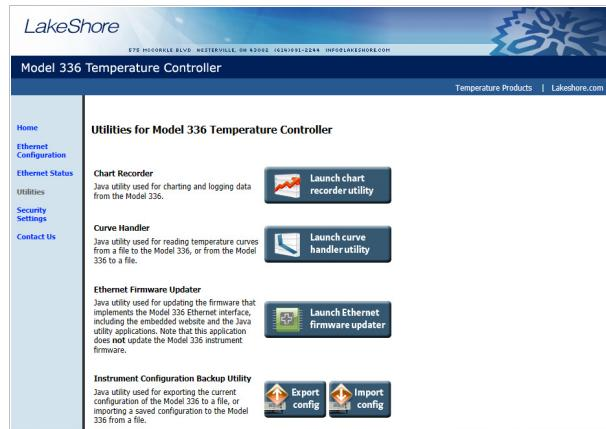

FIGURE 6-8 *Utilities page*
1. On the Utilities page in the Model 336 embedded website, click **Export config** (FIGURE 6-8).
1. On the Utilities page in the Model 336 embedded website, click **Import config** (FIGURE 6-8).